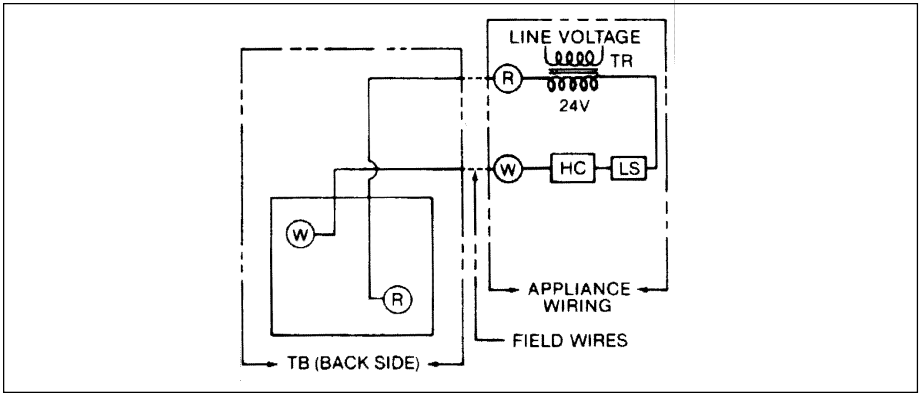

Figure 4. CM65 (Heating Only) No Sub-base
10. Check low-voltage (24V) circuit(s) to appliance and make appropriate wiring connections (see Figure 4). Also refer to wiring diagram on appliance.